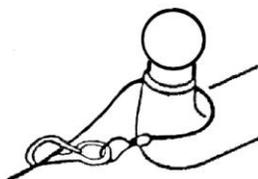

Fig. 3
Fig. 3 Day layout (a) and night layout (b) of the N126nn caravan (1 - gas stove, 2 - sink, 5 - table, 6 - wardrobe, 7 - hanging cupboards, 9 - sleeping spot of 130x193 cm).
1. The caravan should be hitched to the tow ball of the vehicle using a ball coupling. The correct method of hitching the coupling to the tow ball is provided in item 5.2. of this instruction manual.
2. The breakaway cable must be hooked up in a way that allows it to apply the caravan brakes if the coupling comes off the tow ball. To do this, make a loop out of the cable, place it beneath the ball, and fasten a snap hook to the cable to prevent it from slipping from the tow ball (Figure 3).